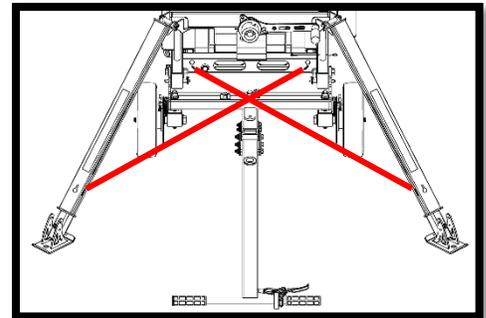

Figure 2
19. Lower chassis Pull Handle to ground before connecting red cables. Anchor red cable to key slot on the lower frame short end rail and cross over to opposing leg, see Figure 2. Cable mount keyways are on the face of the short rails. Repeat for other red cables.